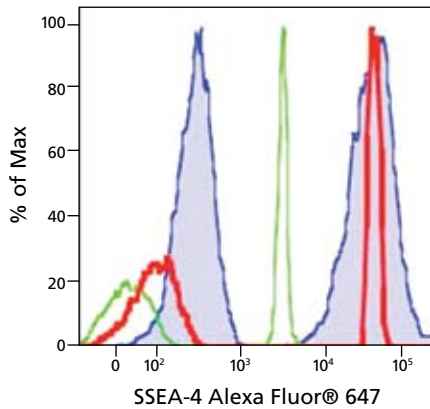

Figure 7. Live H9 hESCs (blue), standard BD CompBeads (3 µm) (green), or BD CompBeads Plus (7.5 µm) (red) stained with SSEA-4 Alexa Fluor® 647.
- BD now offers BD CompBead Plus particles, which are optimal for compensating experiments with larger cell types, for example, human embryonic stem cells (hESCs). These 7.5-µm beads have forward scatter properties better suited for compensating larger cell types than the standard BD CompBeads (Figure 7).